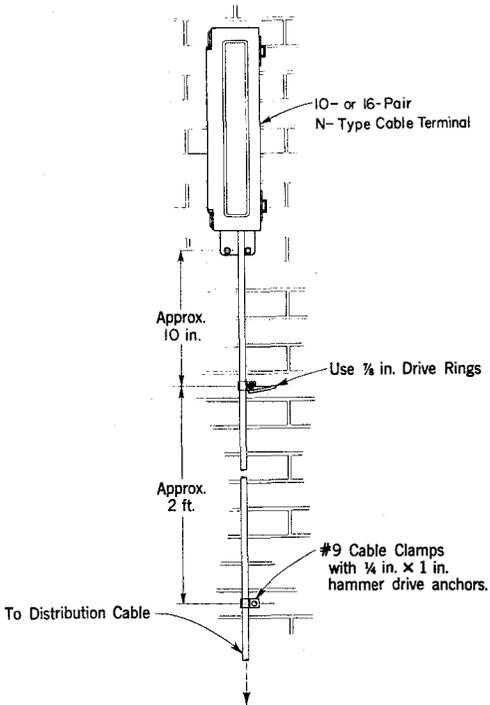

Fig. 33—Vertical Mounted Terminal Above a Horizontal Cable Run
5.06 Figures 33 and 34 show *terminals mounted in line with a vertical cable run or above a horizontal cable run.*